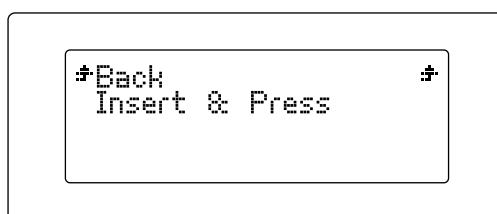

Figure 3.17 Insert & Press message
- 1 Go to **Control > Filament > Load**. The extruder will heat up to a temperature of 220 °C. You can monitor the temperature increase on the LCD screen. Once the correct temperature has been reached, the message **Insert & Press** will appear (fig. 3.17).